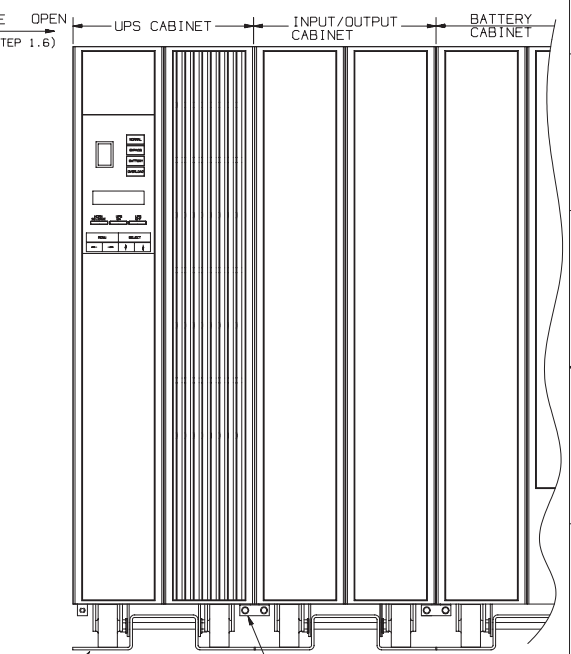

FIGURE 3
- 1.4B POSITION CABINETS APPROXIMATELY INTO FINAL OPERATING POSITION WITH BATTERY TO THE RIGHT OF THE UPS AND INPUT/OUTPUT CABINET AS SHOWN IN FIGURE 3.